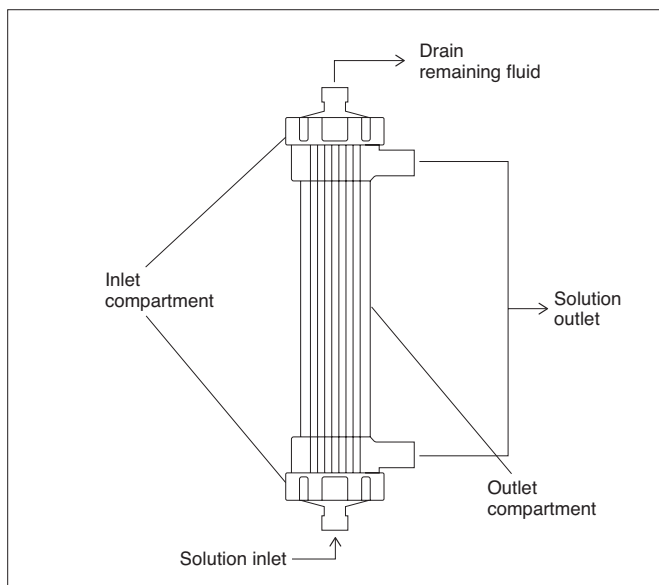

Figure 1 Installation Method
- Avoid freezing the device because the device is filled with reverse osmosis (RO) water.
- Connect the device so that dialysis fluid is filtered from within the hollow fiber to the outside (Figure 1). If the device is connected incorrectly, adequate water quality may not be obtained.